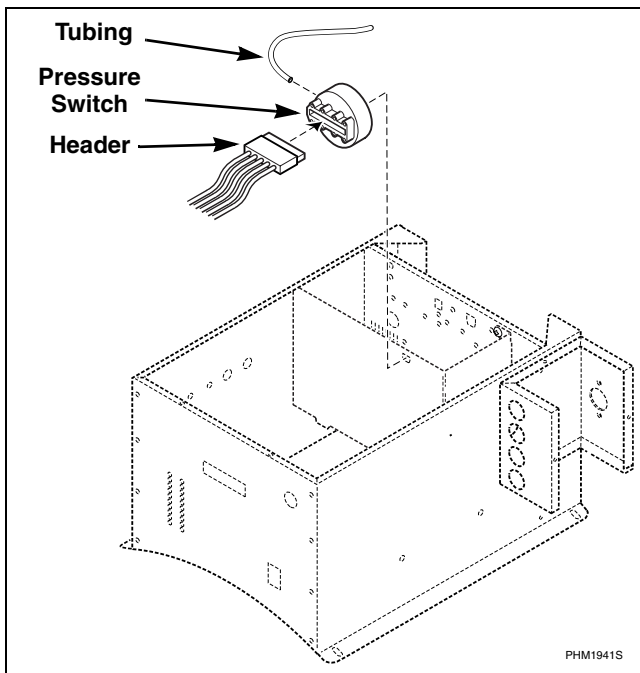

Figure 21
- Remove the header. Refer to *Figure 21*.
- Depress the retaining clip on the back of the pressure switch. Remove the pressure switch. Refer to *Figure 21*.
- Remove the tubing from the pressure switch. Refer to *Figure 21*.